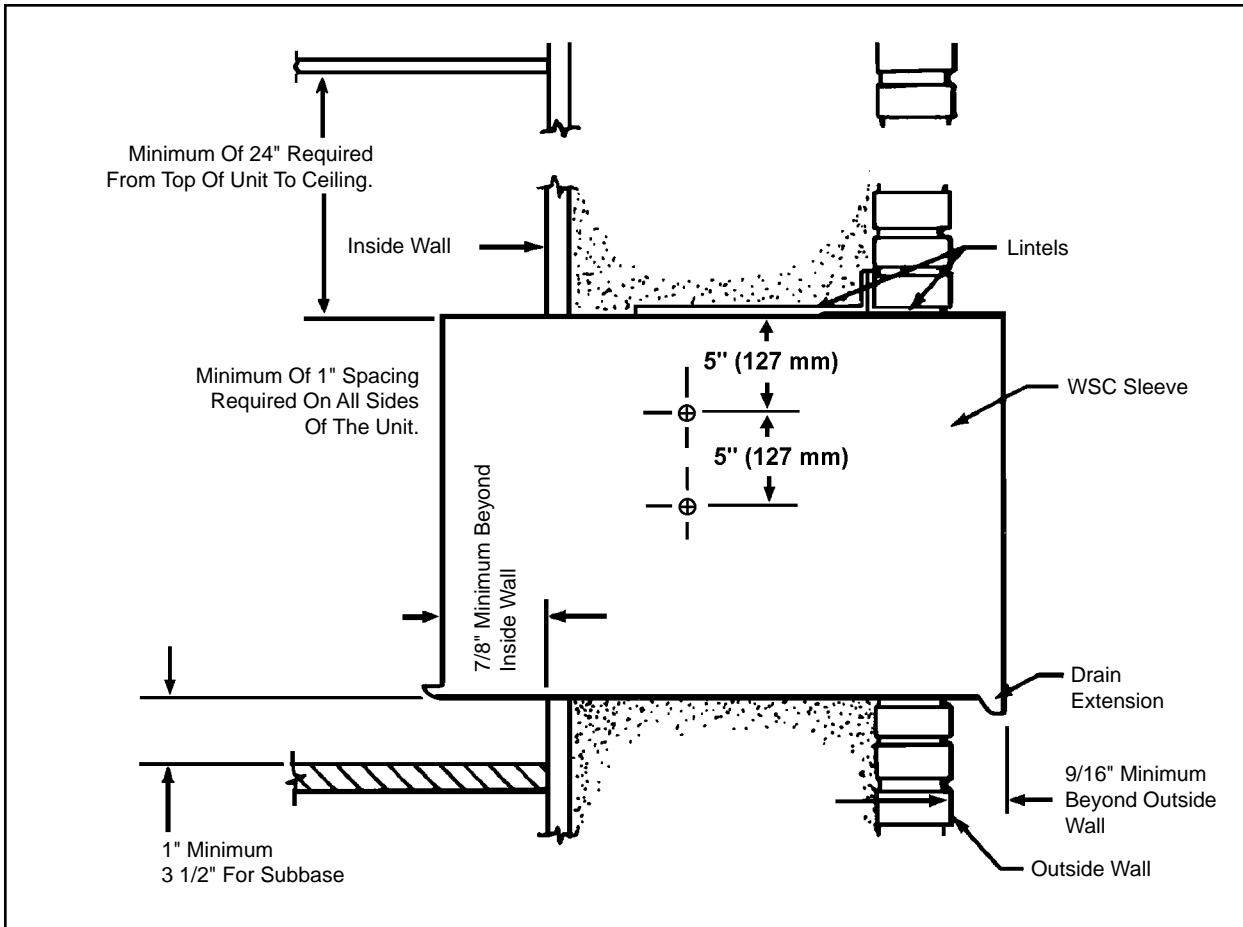

Figure 8
- A. Adjustable SUBBASE (SB) or other unit support must be provided for panel wall type construction and for walls less than 8" thick.
- B. A minimum distance of 1" must be allowed on all sides of the unit to adjacent wall and floor. Where the subbase is required, the minimum distance from the floor to the sleeve must be 3 1/2". To minimize chances of short cycling of the compressor, the minimum clearance between the ceiling and the top of the unit should be 24". (See Figure 8).
- STEP 1** The WSC SLEEVE should be positioned so that the DRAIN EXTENSION extends a minimum of 9/16" beyond the OUTSIDE WALL (See Figure 8).
- STEP 1** After unpacking the WSC SLEEVE from the carton, remove the corrugated FRONT PANEL. Place the WSC SLEEVE in the wall opening following the instructions given in the INSTALLATION REQUIREMENTS. Attach the SLEEVE to the INSIDE WALL by driving two #12A x 2" screws in each side of the SLEEVE (see Figure 8). Shim at the top of the SLEEVE, midway between the sides. Drive one #12A x 2" screw in the top of the sleeve, close to the shim. Install screws from inside the SLEEVE. If the wall opening is not framed with wood, use expansion anchor bolts or molly (toggle) bolts (not provided).